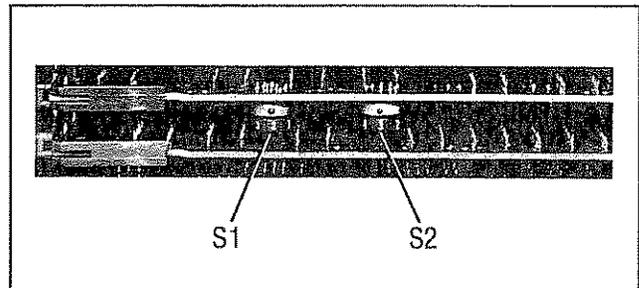

Figure 2-3. HP-IB Address Switches Shown as Set by the Factory
c. Select the new address as shown in Table 2-1. The switches are shown in Figure 2-3. The HP-IB ADDRESS SELECT switch settings (for S1 and S2) are in the octal code. For example, the factory selected addresses are set to 23 (decimal 19). Therefore, the listen address is '3' and the talk address is 'S'.